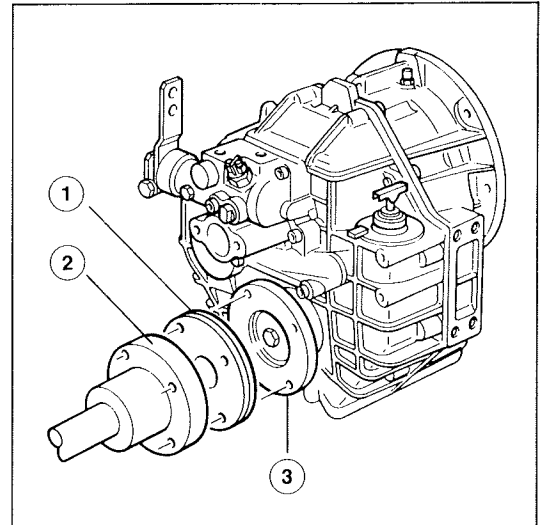

Figure 3
5.3.2 Connecting the propeller shaft with an elastically mounted power pack and a rigid stern tube, a flexible coupling (Figure 3, item 1) should be provided between the transmission output flange (Figure 3, item 2) and the propeller shaft connecting flange (Figure 3, item 3).